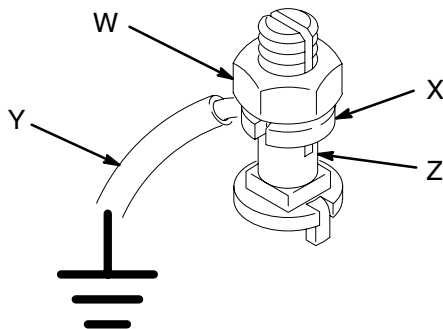

Fig. 1
1. *Pump*: use a ground wire and clamp (supplied). See Fig. 1. Loosen the grounding lug locknut (W) and washer (X). Insert one end of a 1.5 mm² (12 ga) minimum ground wire (Y) into the slot in lug (Z) and tighten the locknut securely. Connect the other end of the wire to a true earth ground. Order Part No. 237569 Ground Wire and Clamp.